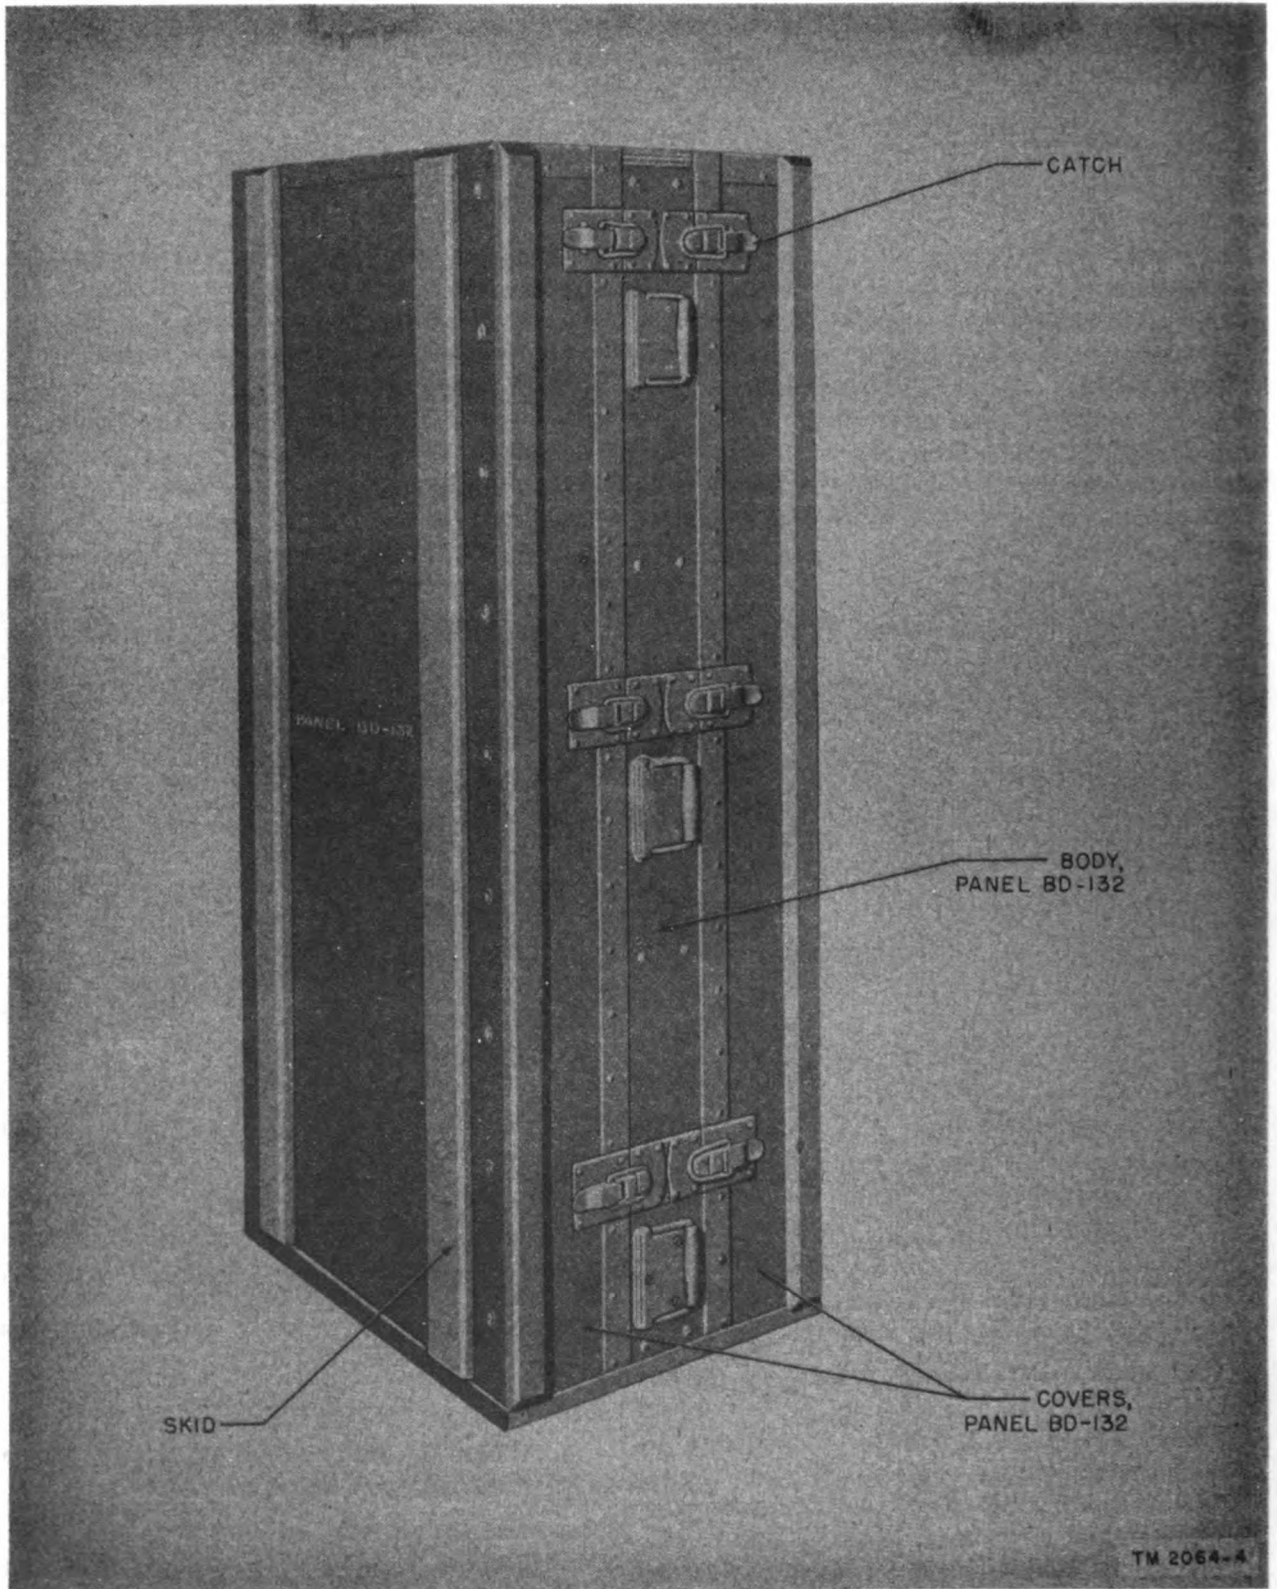

Figure 10. Panels BD-132, front and rear covers in place.
panel is packed for oversea shipment, it is placed in a container 60 inches high, 30 inches wide, and 24 inches deep. Unpacked, the panel weighs 625 pounds; when packed, its gross weight is 700 pounds. Figure 10 shows the panel with front and rear covers in place and ready for domestic movement.
a. UNCRATE, UNPACK, AND CHECK. For over-sea shipment, a special packing case (fig. 12) is provided for Panel BD-132. For domestic shipment, the panel is usually shipped with only its front and rear covers securely fastened (fig. 10). Generally the panel is delivered as a unit of a telephone central office set, so that the selection of a location where it is unpacked is dictated more or less by the location chosen for the complete central office set. Instructions contained in (2) (a) through (j) below apply to equipment delivered in oversea packing cases; instructions contained in *b* below apply to equipment delivered with only front and rear covers of the panel fastened in place.
- (1) *General.* Be careful in uncrating, unpacking, and handling the equipment. It is easily damaged and, if damaged or exposed, may require a complete overhaul or be rendered useless.
- (2) *Step-by-step instructions for uncrating and unpacking export shipments.*
- (g) Remove front and rear covers (fig. 10).